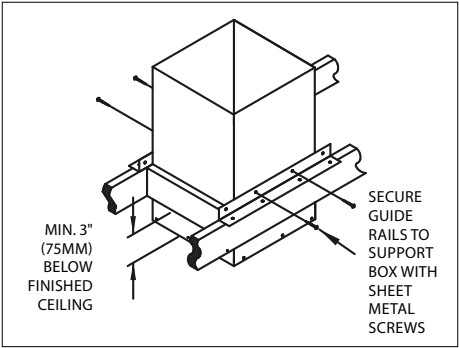
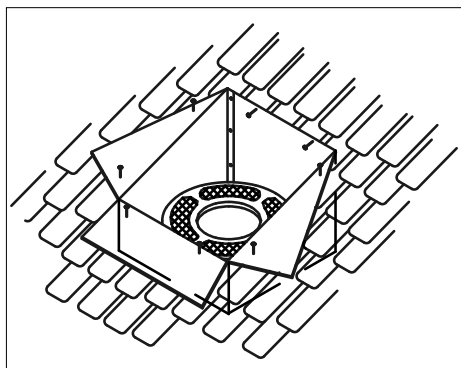

Figure 7A
Figure 20
Box on opposite sides. Place the Guide Rails on the Support Box at the proper height so the bottom of the Support Box will be at the correct distance from the ceiling (**Fig 7A**). Secure the Guide Rails in place using 4 sheet metal screws. **IMPORTANT:** the Guide Rails are only used to help install the Support Box level and are not used to help support the weight of the chimney installation. Secure the Support Box to the framing using at least three (3) 8-penny nails per side (minimum of 12 nails total), or a minimum of (3) #8, 1-1/2" wood screws. Adjust the overlapping "U-shaped" Trim pieces so they cover the Support Box, and secure them to the framing
3. Install Support Box: Slip the Support Box into the framed opening so the square bottom projects at least 3 inches (75 mm) below the finished ceiling and rafters, and extends above the ceiling to framing or decking materials that it can be nailed to. Level the Support Box, and slit the corners to the roofline where they extend beyond it. Bend the flaps (created by the slitting) flush with the roof, and nail the Support Box to the roof or framing with at least three (2) 8-penny nails, or (2) 1-1/2", #8 screws, per side (**Fig 20**). Be sure to keep the bottom of the Support Box level. To help keep the Support Box level during installation, optional Support Box Guide Rails are available. Place the Guide Rails on the Support Box at the proper height so the bottom of the Support Box will be at the correct distance from the ceiling (**Fig 7A**). Secure the Guide Rails in place using 4 sheet metal screws.